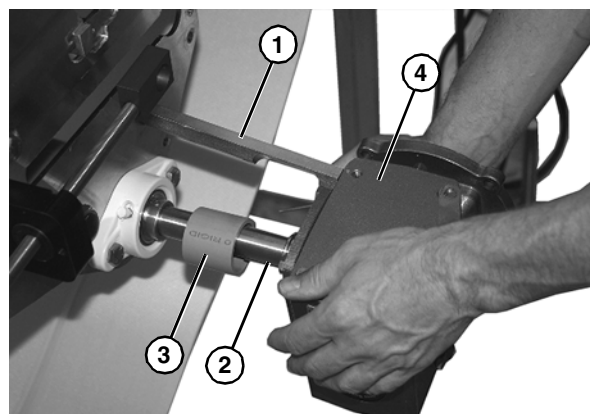

Figure 26
2. Install mounting post (Figure 26, item 1) onto conveyor frame with bolt.
3. Install key (Figure 26, item 2) on drive shaft.
4. Install spacer (Figure 26, item 3) onto shaft.
5. Install gear reducer (Figure 26, item 4) onto shaft.